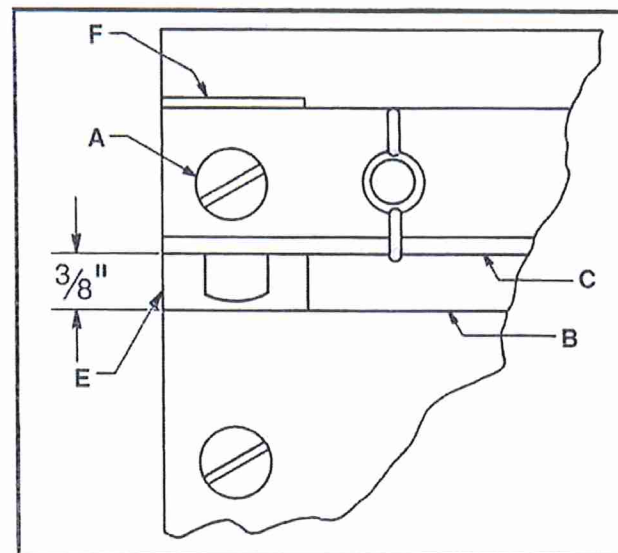

Fig. 7
9. Check the 3/8" space, Fig. 7, between the back edge (B) Fig. 7, of the finger templet and the front side (C) Fig. 7, of the top clamping bar. This space should be the same at both ends of the finger templet. If necessary, adjustment may be made as follows:
- (a) Loosen the two screws (A) Fig. 7, just enough so brackets (E) can be moved.
- (b) While holding finger templet and brackets forward, turn set screws in back edge of brackets at point (F) until the 3/8" dimension is the same at both ends.
7. After obtaining a snug dovetail fit as outlined in step 6 assemble parts and check the relation of the end of the drawer front with the side of the left side of the drawer. If they are not flush, increase or decrease the $\frac{3}{8}$ " space, Fig. 7, until the desired fit is obtained. REMEMBER, this space must be the same at both ends at the templet after tightening screws (A) Fig. 7.
5. Loosen templet adjusting screws (A) Fig. 7, at each end of the top clamp bar only enough to allow the finger templet-bracket assembly to be moved. **DO NOT LOOSEN THE TOP CLAMP BAR WING NUTS** because the drawer front is not to be disturbed.
6. Move finger templet-bracket assembly back until the back edge (B) Fig. 7, of the finger templet butts against the top clamp bar (C) Fig. 7, along its entire length. Firmly tighten templet adjusting screws (A) Fig. 7, to lock finger templet-bracket assembly in this position.
8. Loosen templet adjusting screws (A) Fig. 7, and move finger templet-bracket assembly forward as far as it will go and firmly tighten screws. Check the 3/8" dimension Fig. 7, to make sure it is the same at each end of the templet.